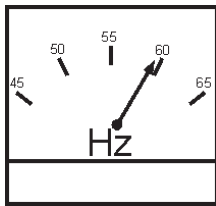

Figure 43. Frequency Meter (Hz)
11. The generator's frequency meter (Figure 43) displays the 60 cycle output frequency in **HERTZ**.